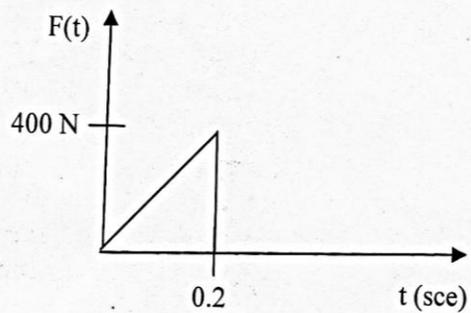

Fig.2
**(b)** A single spring mass system has spring constant of 750 N/m and mass of 7.5 kg. If it is loaded by an impulsive load as shown in the Figure 2, derive the equation of the response after completion of the impulse. 07